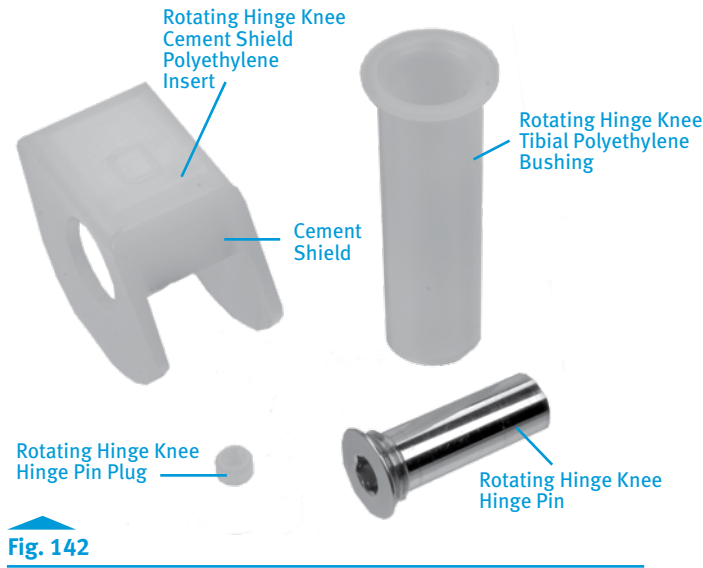

Fig. 142
- Verify that the appropriate size Segmental Articular Surface and *NexGen* RH Knee Cement Shield Service Kit (Fig. 142) is used (Appendix H).
Warning: Do not use the Segmental Polyethylene Insert with the *NexGen* RH Knee Distal Femoral Component. Only the items shown in Fig. 142 are to be used with the Segmental Hinge Post when it is being implanted with a *NexGen* RH Knee Distal Femoral Component (refer to Appendix H).